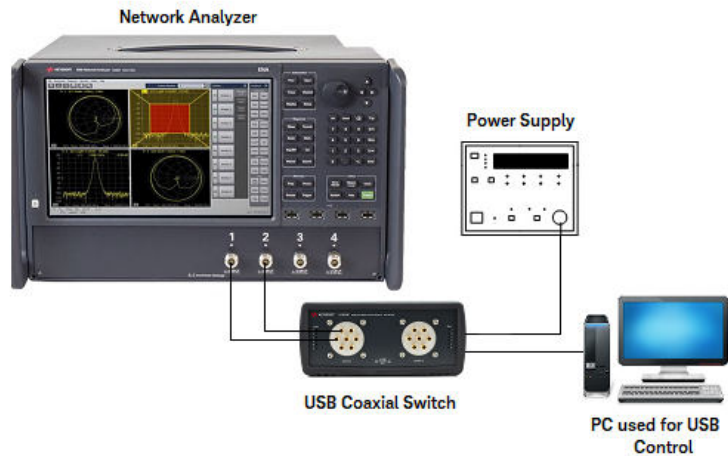

Figure 4-1 Connection to perform a quick check
- 1 Connect the common port of the switch to Port 1 of the network analyzer and one of the outer RF ports to Port 2 of the network analyzer as illustrated in Figure 4-1.